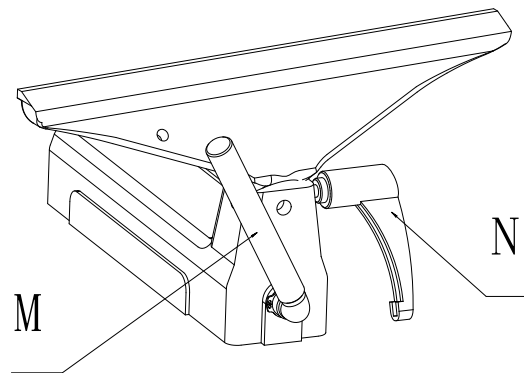

FIG.6
11. **Tool Rest Body Lock Handle:** (M, Fig. 6) Locks the tool rest body in position. Unlock handle to position the tool rest in any location along lathe bed. Tighten handle when properly positioned.
12. **Tool Rest Lock Handle:** (N, Fig. 6) Locks the tool rest in position. Unlock the handle to position tool rest at a specific angle, or height. Tighten handle when properly positioned.